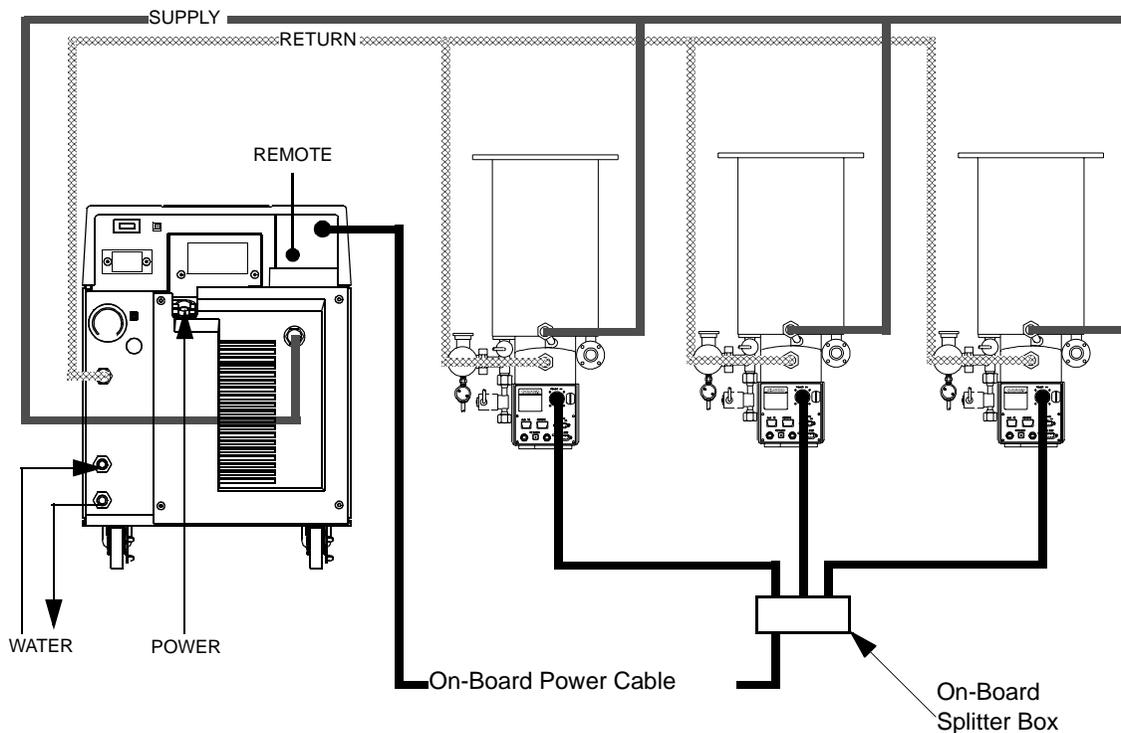
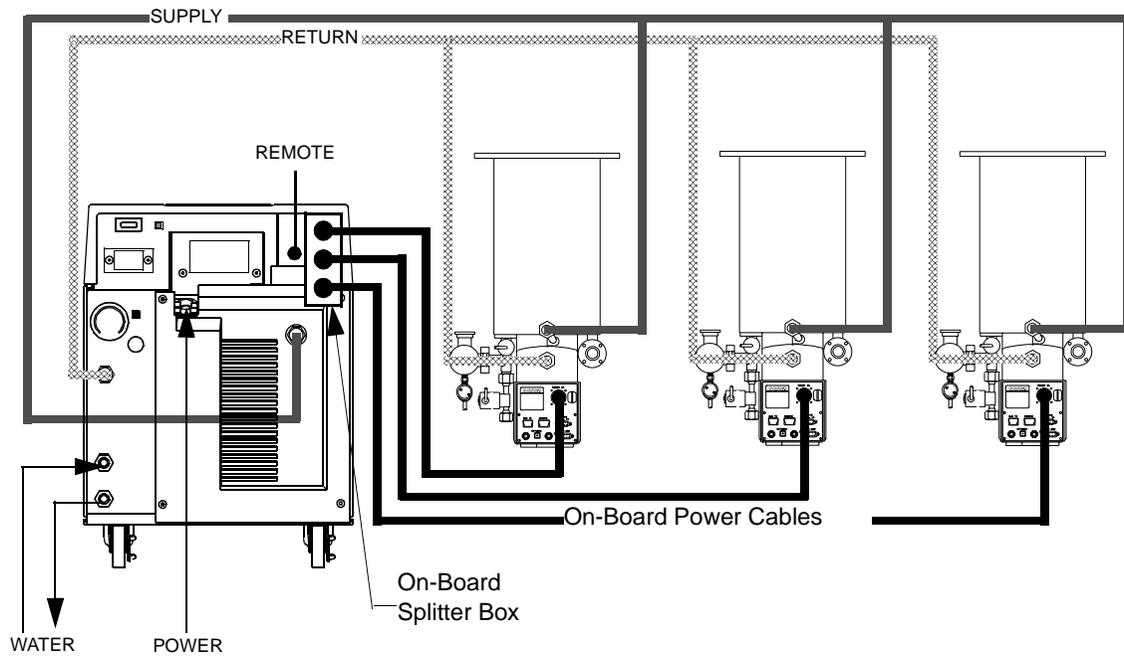

Figure 3-6: Recommended Multiple On-Board Cryopump or Waterpump Installation (Splitter Box located at Process Tool)
Figure 3-7: Alternative Multiple On-Board Cryopump or Waterpump Installation (Splitter Box located at Compressor)
1. Connect the On-Board Splitter Box power cable between the CRYOPUMP ELECTRICAL OUTLET on the rear panel of the Compressor and the On-Board Splitter Box power connector as shown in Figure 3-6.
2. Connect the On-Board Cryopump or Waterpump power cables to the CRYOPUMP 1, 2, or 3 connectors on the On-Board Splitter Box and the respective cryopumps as shown in Figure 3-6.
***NOTE:** The On-Board Splitter Box can be installed at the process tool containing the pumps as shown in Figure 3-6, or on the rear of the Compressor as shown in Figure 3-7. CTI-CRYOGENICS recommends that the On-Board Splitter box be installed near the process tool to reduce cable requirements.*